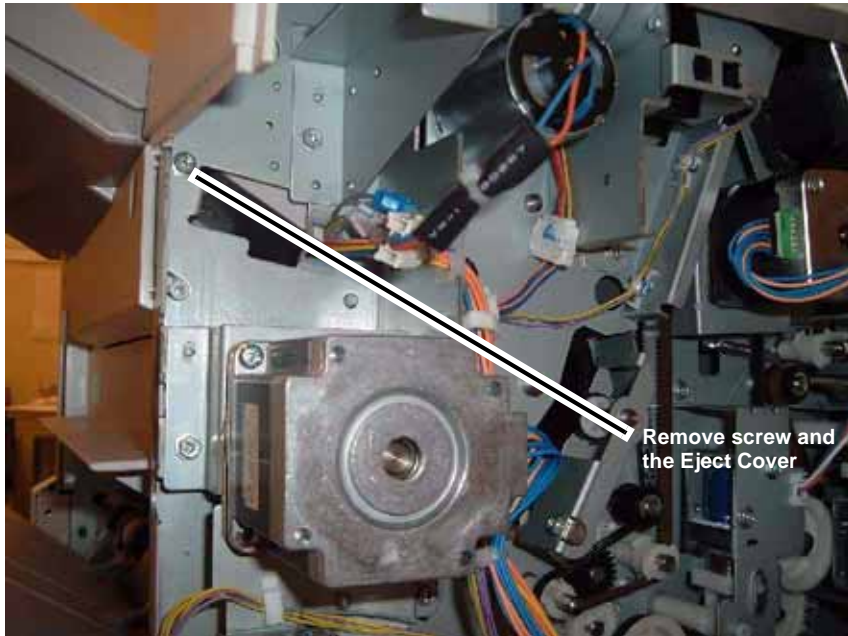

Figure 2 Removing the Eject Cover
4. Remove the Eject Cover (Figure 2).